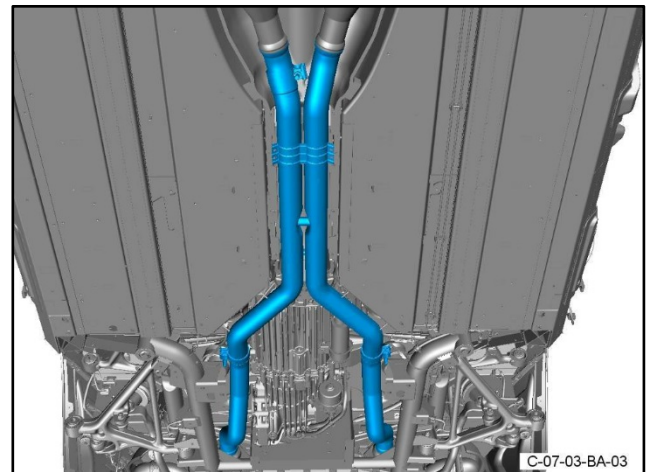

Figure 9
17. Remove the centre pipe and the rear exhaust pipes as an assembly (refer to Figure 9).